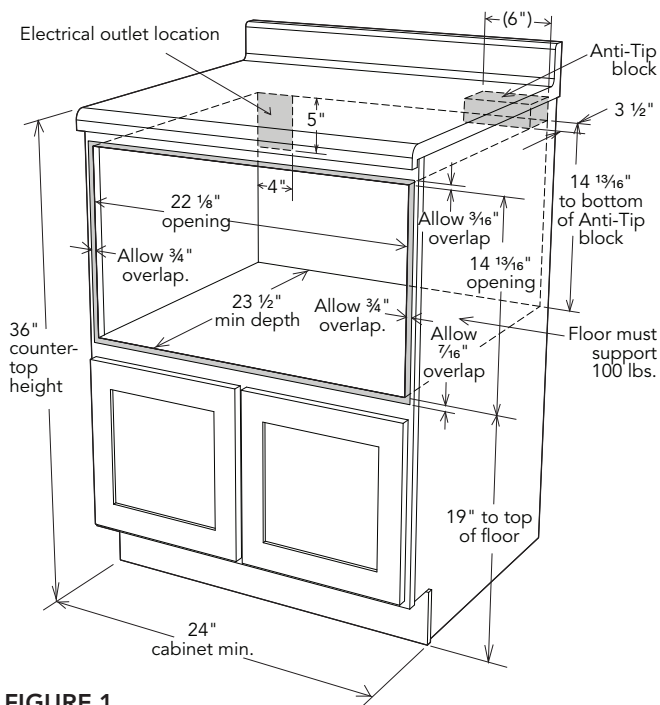
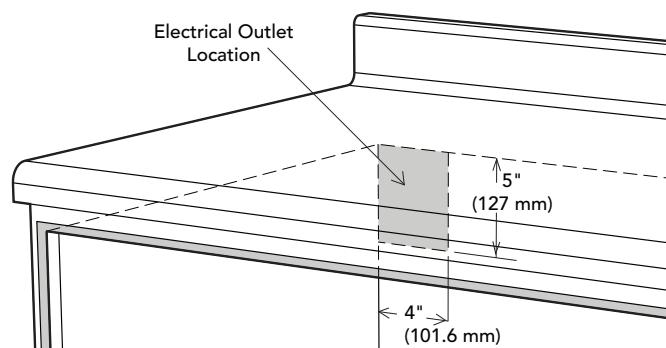

FIGURE 1
FIGURE 4
- FOR **SAFETY CONSIDERATIONS** DO NOT INSTALL DRAWER IN ANY COMBUSTIBLE CABINETRY, WHICH IS NOT IN ACCORD WITH THE STATED CLEARANCES AND DIMENSIONS ON PAGE 2, SEE FIGURE 1.
- Dimensions that are shown in FIGURE 1 must be used. Given dimensions provide minimum clearance. Locate electrical outlet in the shaded area in the upper left-hand corner of the cutout. See FIGURE 4.
FIGURES 1 and 2 contain many DrawerMicro Oven measurements for reference when planning the drawer's location.
To reduce the risk of tipping of the drawer, the Anti-Tip block must be properly installed located 14 $\frac{13}{16}$ " above the floor on which the appliance will sit. The 6" Anti-Tip block must be provided by the installer. See FIGURE 1. The Anti-Tip block prevents serious injury that might result from spilled hot liquids.